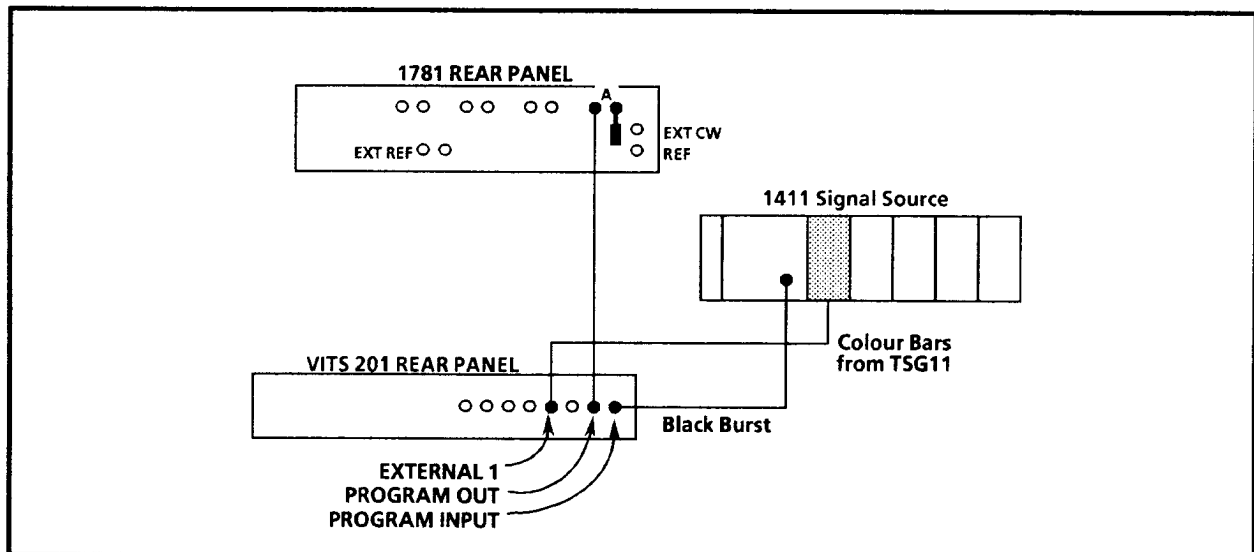

Figure 6-3. Equipment setup to check D.C. levels
- a. Connect the equipment as shown in Figure 6-3. Set S11-1 closed and –2 open.